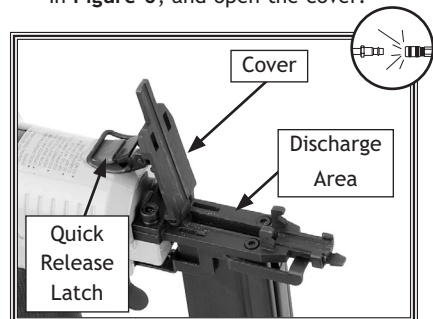

Figure 6. Nose opened to clear a jam.
4. Flip the quick release latch, as shown in Figure 6, and open the cover.